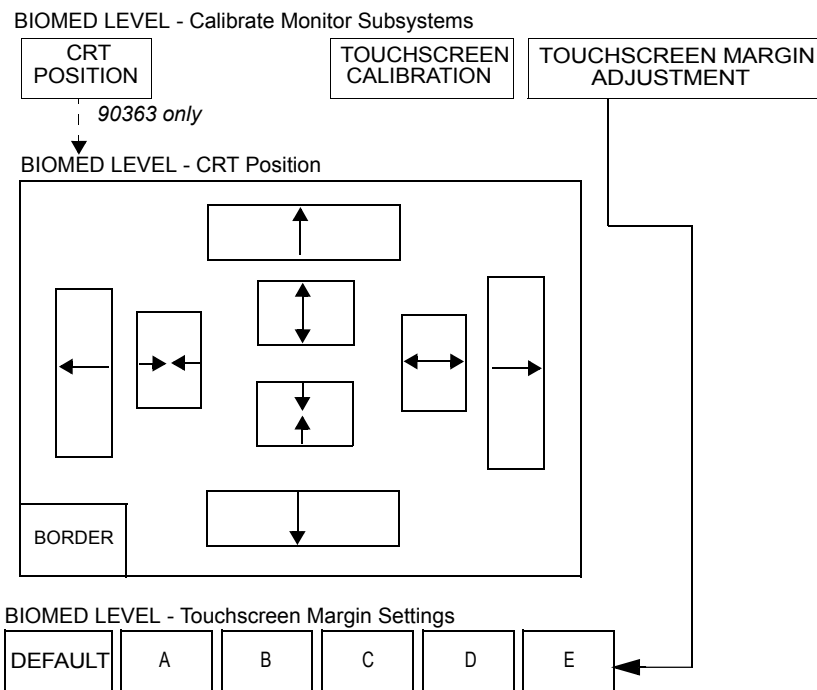

Figure 2-10: 90363 Monitor Calibration menu
2. Verify that the CRT position adjustment keys appear (refer to *Figure 2-10*).